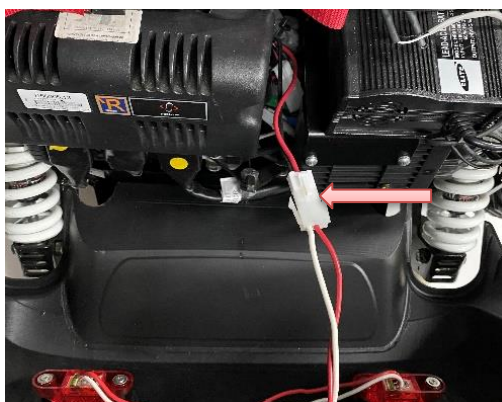

Figure 4-C
- 6- Disconnect the cable from the rear lights (Figure 4-C).